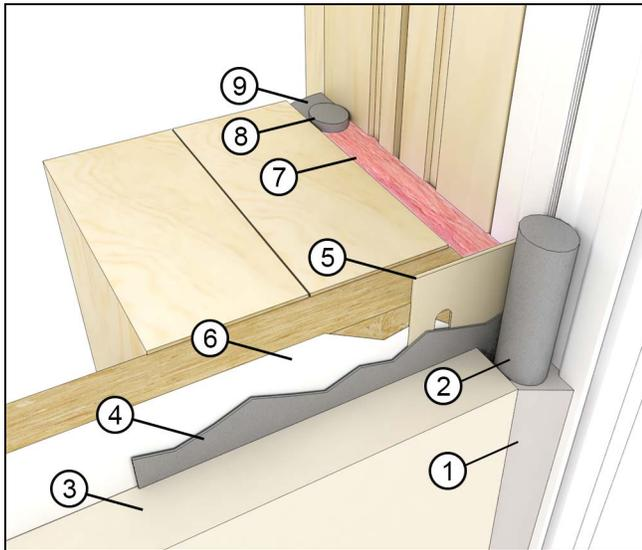

Figure 29
1. For ALL applications: Once the exterior finish such as siding or brick veneer is installed, apply bead of sealant between the finish and the frame exterior or casing along the sides. Apply additional beads approximately 1"- 2" (25-51) at the ends on top of the drip cap. Use a backer rod when necessary. See Figure 29 and Figure 30.